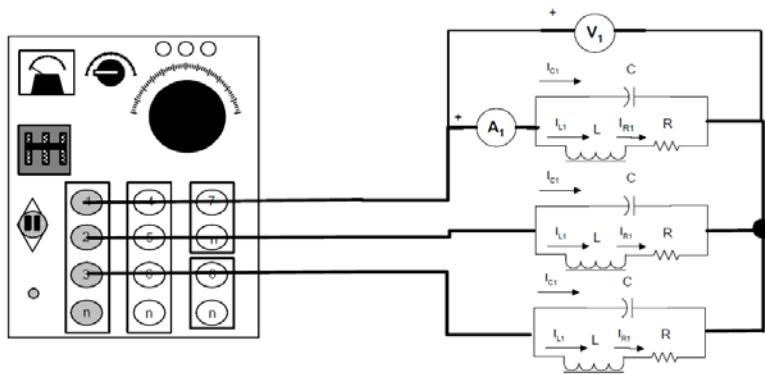

FIGURE 3.9
- Step 10: Now, using your single-phase wattmeter configuration, measure the power in phase 1 as shown in the Figure 3.9. Notice that the phase-1's current pass through the current coil (the DAI II's terminals), and the voltage coil (DAI EI's terminals) is connected in parallel with phase 1. Write your measure at table 3.2.